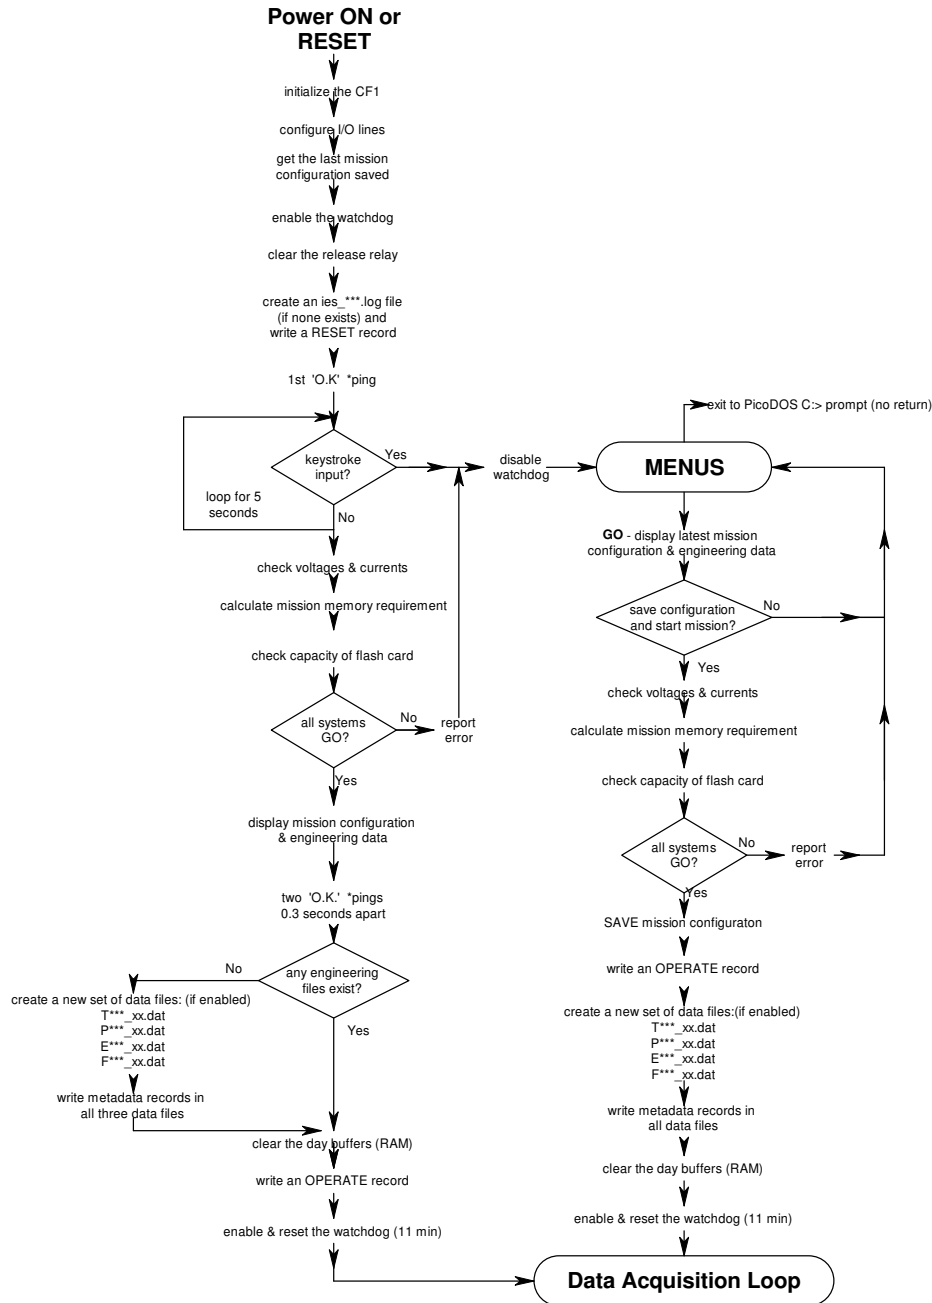

Figure 2-3 IES RESET program flow
- **RESET** - This push button will RESET the Persistor computer module and restart the IES program. A flow chart of the restart process is shown in Figure 2-3. All data collected since the start of that day will be lost unless they have been previously saved by a data buffer flush operation - see Chapter 2.5(F).
For those who want to know the details, a flow chart of the power ON or RESET function is shown in Figure 2-3. The most important details are listed below.